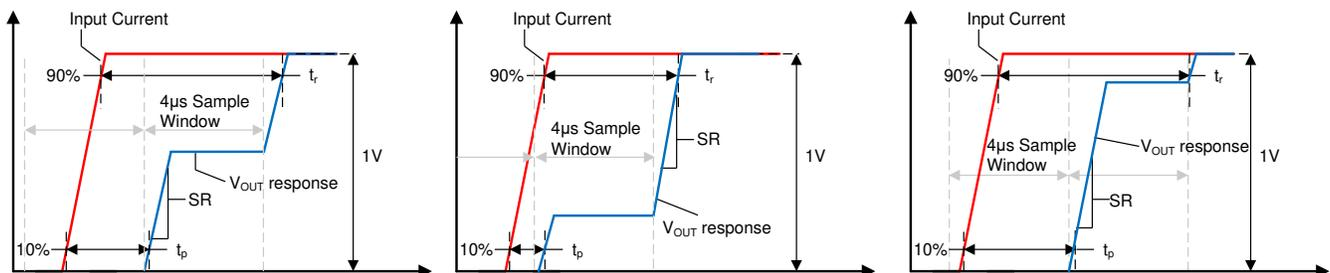

Figure 8-3. Small Current Input Step Transient Response
Slew rate (SR) is defined as the  $V_{OUT}$  rate of change for a single integration step's output transition, as shown in Figure 8-3. Because the device often requires two sampling windows to reach a full 90% settling of its final value, this slew rate is not equal to the 10%-90% transition time for the full output swing.
Propagation delay is the time period between the input current waveform reaching 10% of its final value and  $V_{OUT}$  reaching 10% of its final value. This propagation delay is heavily dependent upon the alignment of the input current step and the sampling period of the TMCS1108-Q1, as shown for several different sampling window cases in Figure 8-3.
Response time is the time period between the input current reaching 90% of its final value and the output reaching 90% of its final value, for an input current step sufficient to cause a 1-V transition on the output. Figure 8-3 shows the response time of the TMCS1108-Q1 under three different time cases. Unless a step input occurs directly during the beginning of one sampling window the response time will include two sampling intervals.